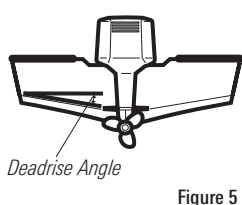

Figure 5
**NOTE:** The hydrodynamic shape of your transducer allows it to point straight down without deadrise adjustment (Figure 5).